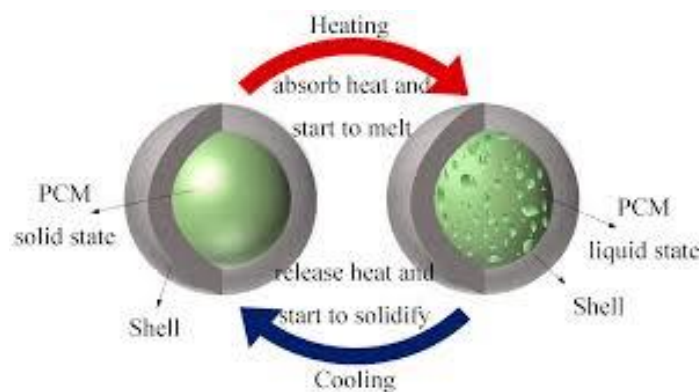

Figure 21. Heat transport using materials
- **Description:** Heat transport using materials (Figure 21) that absorb or release heat during phase transitions (example: solid to liquid).